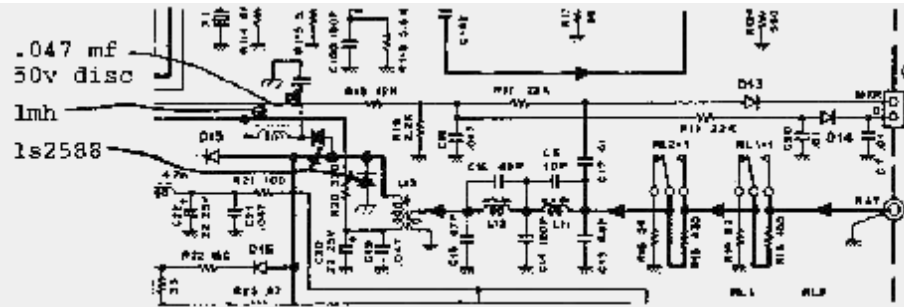

Figure 3
3. Figure 3 show a circuit that is capable of withstanding antenna input levels of up to 50 Watts. Use this on units that may be subject to high levels of RF. (This is an optional change that may not be done in-warranty.)